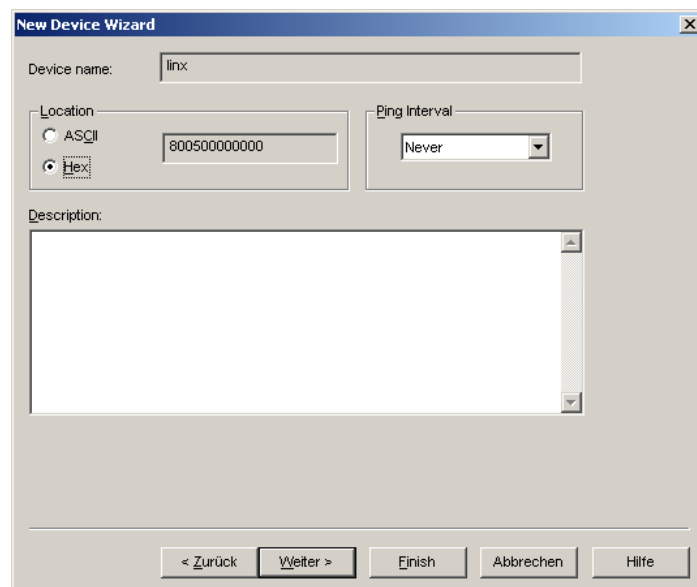

Figure 110: Leave defaults for Location.
5. The following dialog shown in Figure 110 appears, click **Next**.